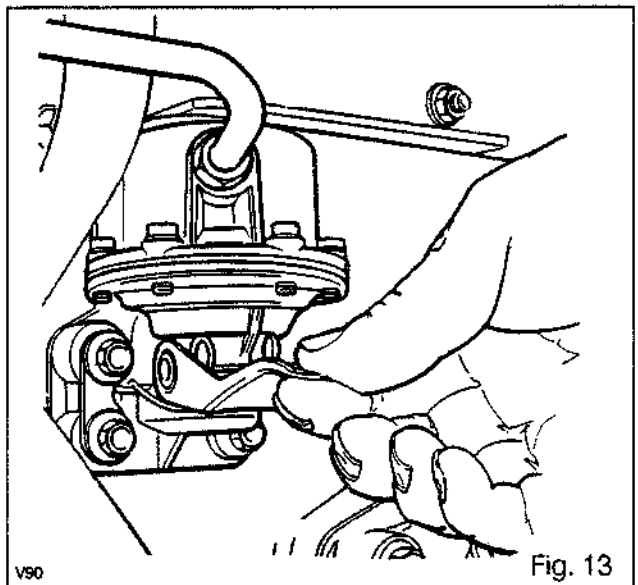

Fig. 13
**Fuel filter element (Fig. 13)**